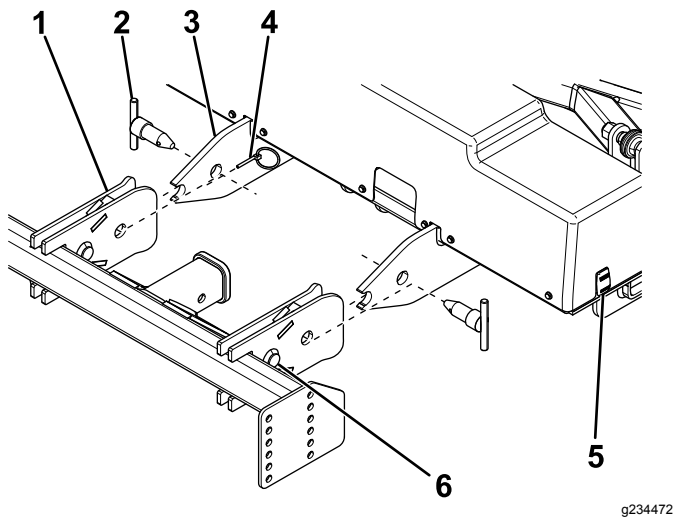

Figure 24
4. Use the coupler switch to raise or lower the plow to the desired height, then slowly drive backward until the attachment arms contact the undercarriage pin (Figure 24).
5. Slide the attachment pins through the holes in the attachment arms and undercarriage and secure them with a linchpin (Figure 24).